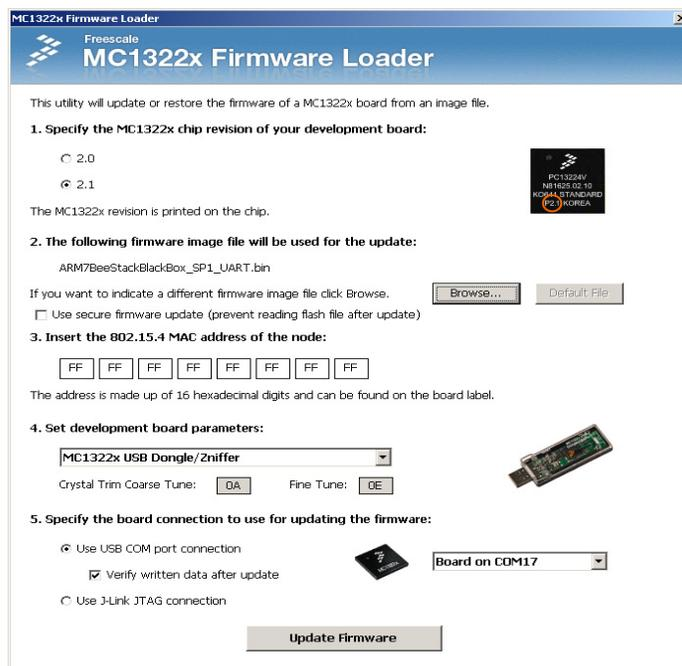

Figure 6-8. MC1322x Firmware Loader Window
1. From the Test Tool tool bar, choose Firmware Loader->MC1322x Firmware Loader. The MC1322x Firmware Loader appears as shown in Figure 6-8.